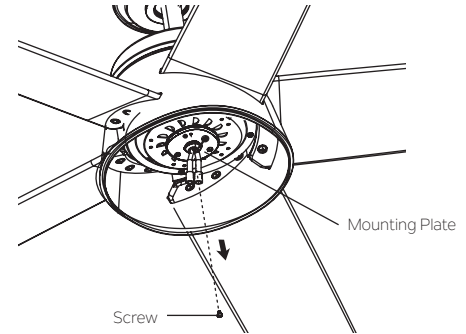

Fig. 19
Step 1. Remove the screw marked with a dot label which is preinstalled on mounting plate and keep for later use. Loosen the other two (do not remove). (Fig.19)